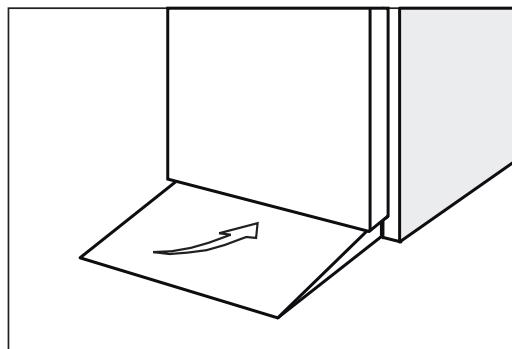

Fig.6
- place the access ramp (Fig. 6)